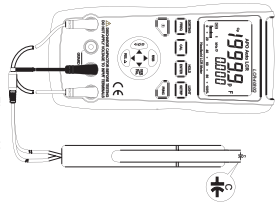

Figure 11
3) Insert the capacitor into input terminals or connect the capacitor to the meter using the test clamp (See Figure 11).